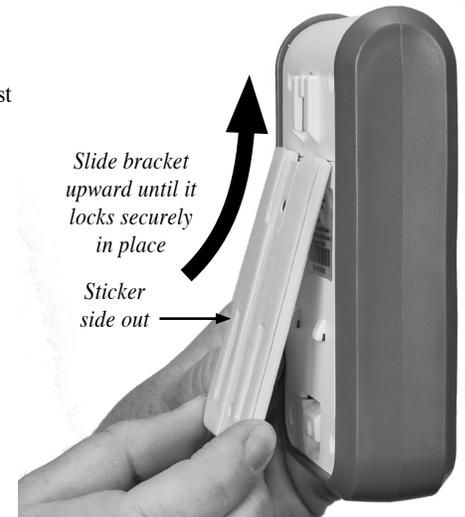

Figure 5
2. Slide bracket upward until it locks securely in place (Fig. 5).